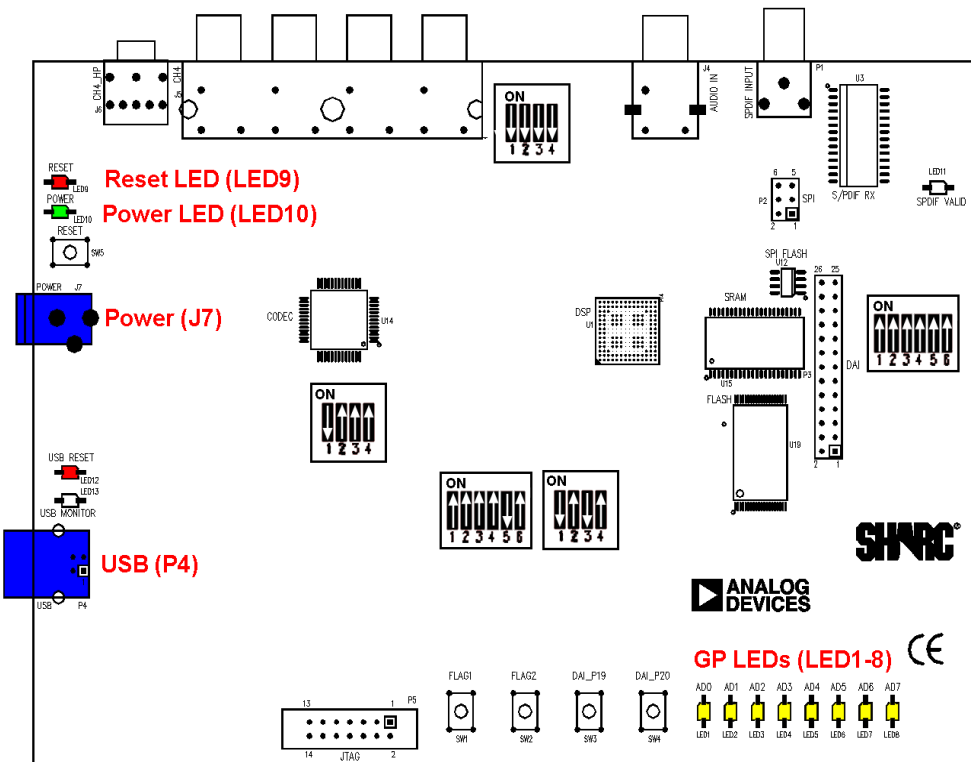

Figure 1-1. EZ-KIT Lite Hardware Setup
2. Figure 1-1 shows the default jumper settings, DIP switch, connector locations, and LEDs used in installation. Confirm that your board is set up in the default configuration before continuing.